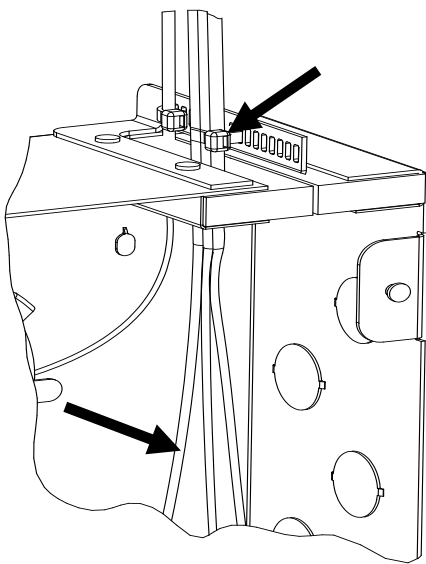

Figure 9
1. Route the outgoing PFC into the TB and secure to the strain relief bar with a supplied cable tie, as shown in **Figure 9**. Ensure adequate length for fiber slack (1-1.5 meters).
2. Separate the cable into three sections along the tear lines, as shown in **Figure 9**.